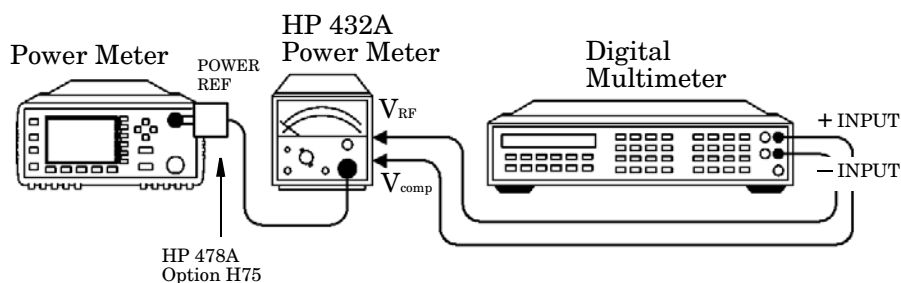

Figure 3-3: Adjustment Setup
- Set up the DVM to measure resistance. Connect the DVM between the V_{RF} connector on the rear panel of the HP 432A and pin 1 on the thermistor mount end of the sensor cable. Verify that no power is applied to the HP 478A - Round off the DVM reading to two decimal places and record this value as the internal bridge resistance (R) of the test power meter (approximately 200 Ω). ■ R (Internal Bridge Resistance)_____ Ω - Connect the equipment as shown in Figure 3-3. The leads should be isolated from ground. Ensure that the power reference oscillator is off. Ensure that both the power meter under test and the HP 432A have been powered on for at least 30 minutes before proceeding to the next step. - Set the HP 432A range switch to coarse zero and adjust the front panel coarse zero control to obtain a zero meter indication. - Fine zero the HP 432A on the most sensitive range, then set the range switch to 1 mW.